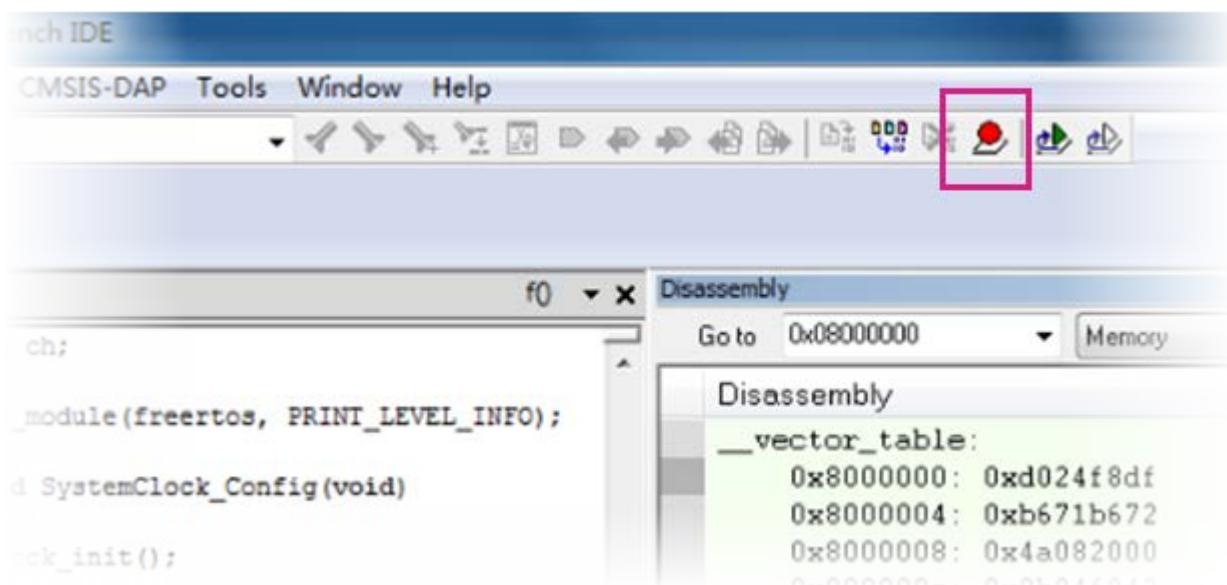

Figure 72. Debugging a project on IAR
- 6) Click **Debug** to start debugging, as shown in Figure 72.